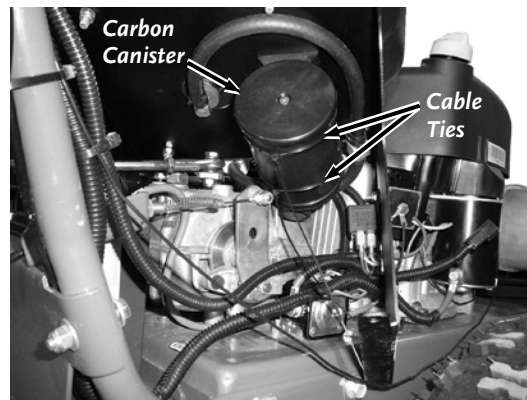

Figure 43
11. Position the Carbon Canister with the two Tabs of the Canister fitting into the Canister Brackets and tighten the Cable Ties around it (**Figure 43**).